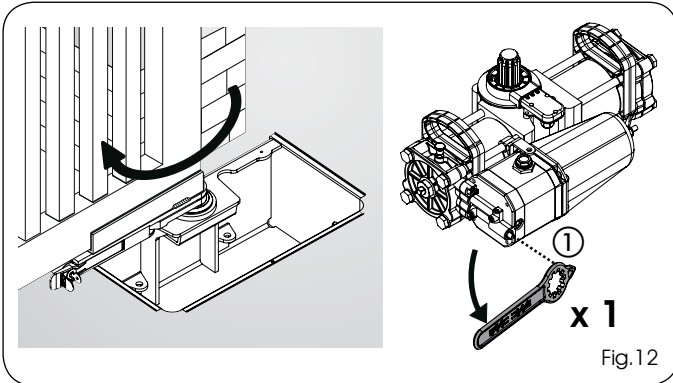

Fig.12
- 2) Consulting the instructions in chapter 7.1, hydraulically release the operator, using the key (Fig. 1 ref. ⑩) on the release screw (Fig. 12 ref. ①)